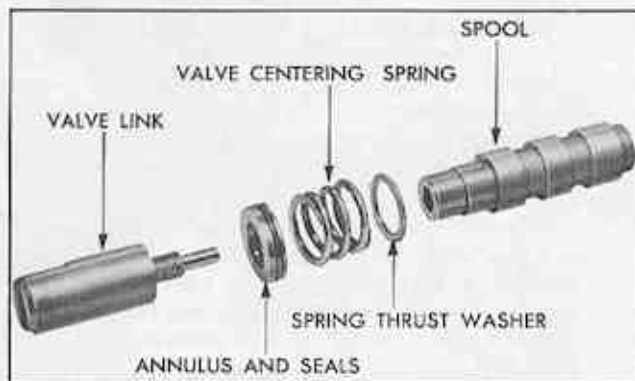

Fig. 57 Spool Assembly Partially Exploded
4. Remove valve link, using tool J-6224. Remove annulus and seals, valve centering spring, and spring thrust washer (Fig. 57). Remove "O" ring seals from annulus.